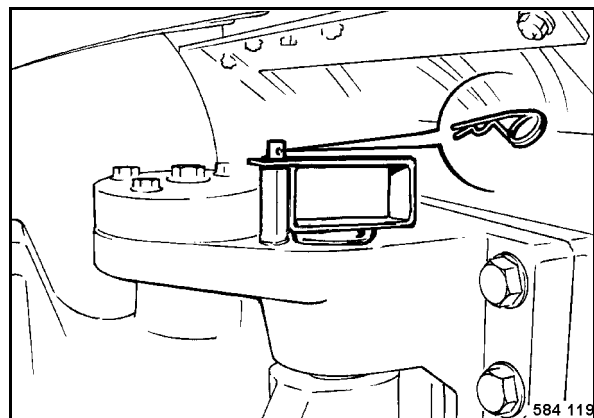

Fig. 116
- Engage the articulation lock and secure it with the spring pin (Fig. 116).